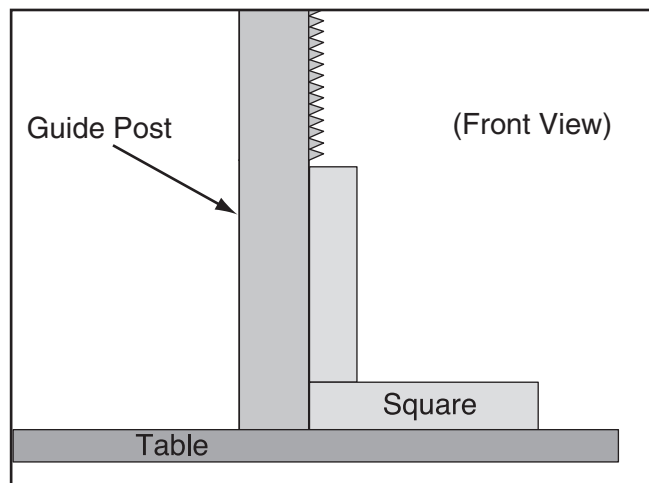

Figure 100. Example of checking guide post squareness.
3. Place a machinist's square on the table next to the right hand side of the guide post, as shown in **Figure 100**.